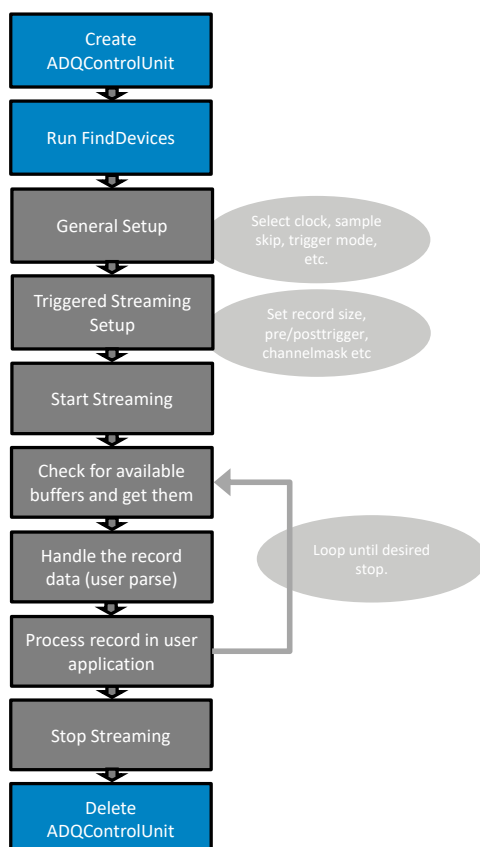

Figure 3: A high level flowchart for the triggered streaming mode.
- Digitizer is capturing data, data is sent to host and then can go on until the user stops it. See the flowchart in Fig. 3